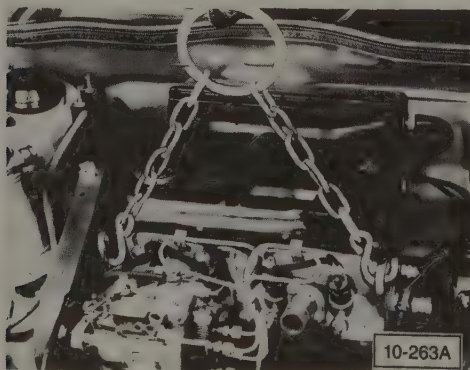

Fig. 5-6. Engine hoist chain properly attached for lifting gasoline and diesel engines, except 16-valve.
16. Install an engine lifting device, using the lifting points illustrated in Fig. 5-6 and, for 16-valve engines, Fig. 5-7.